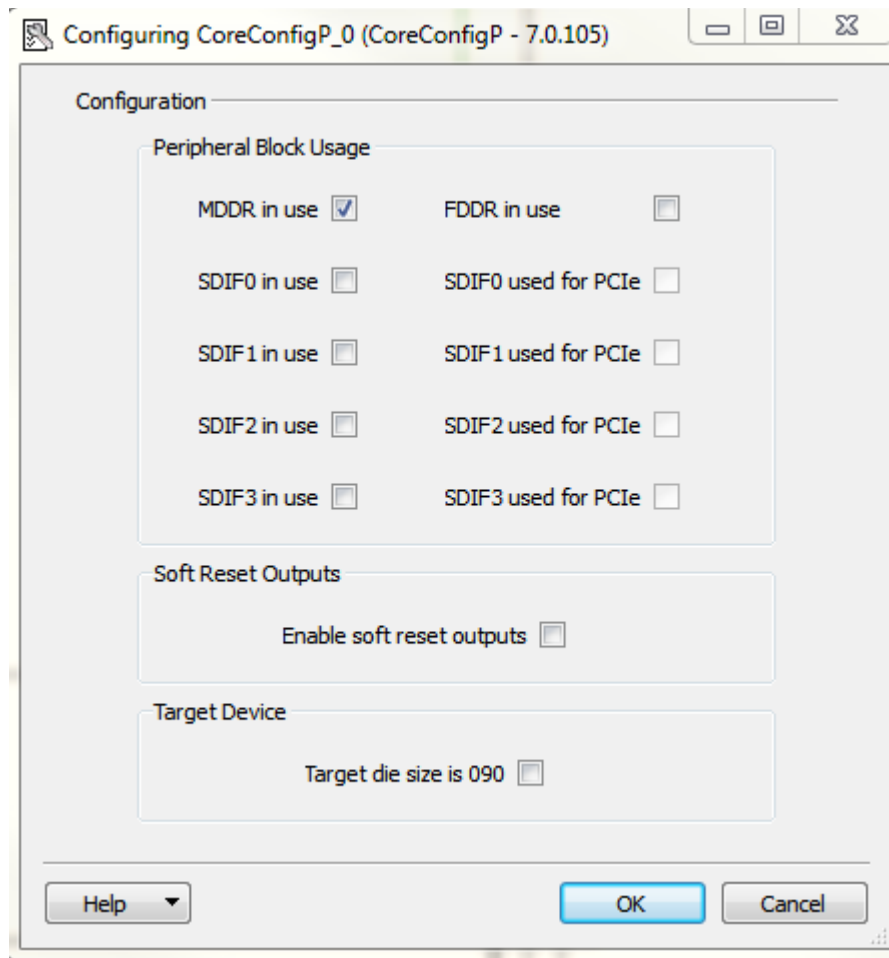

Figure 11 • CoreConfigP Dialog Box
3. Configure the core to specify which peripherals need to be initialized (Figure 11)